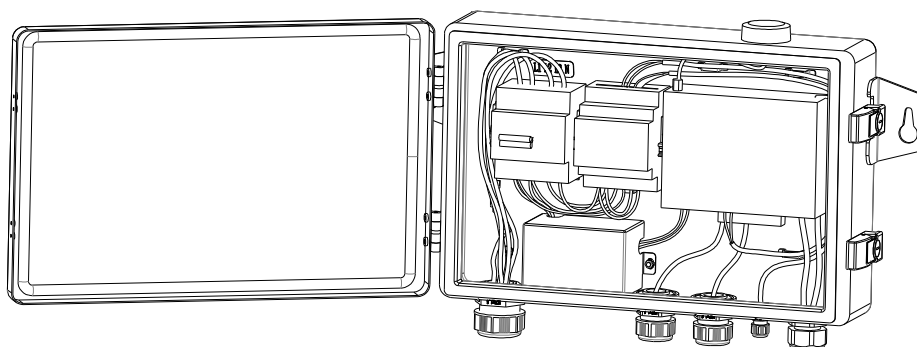

Figure 4-6
- EMB-100 should be placed in a fixed place indoors / outdoors, as shown in Figure 4-6.